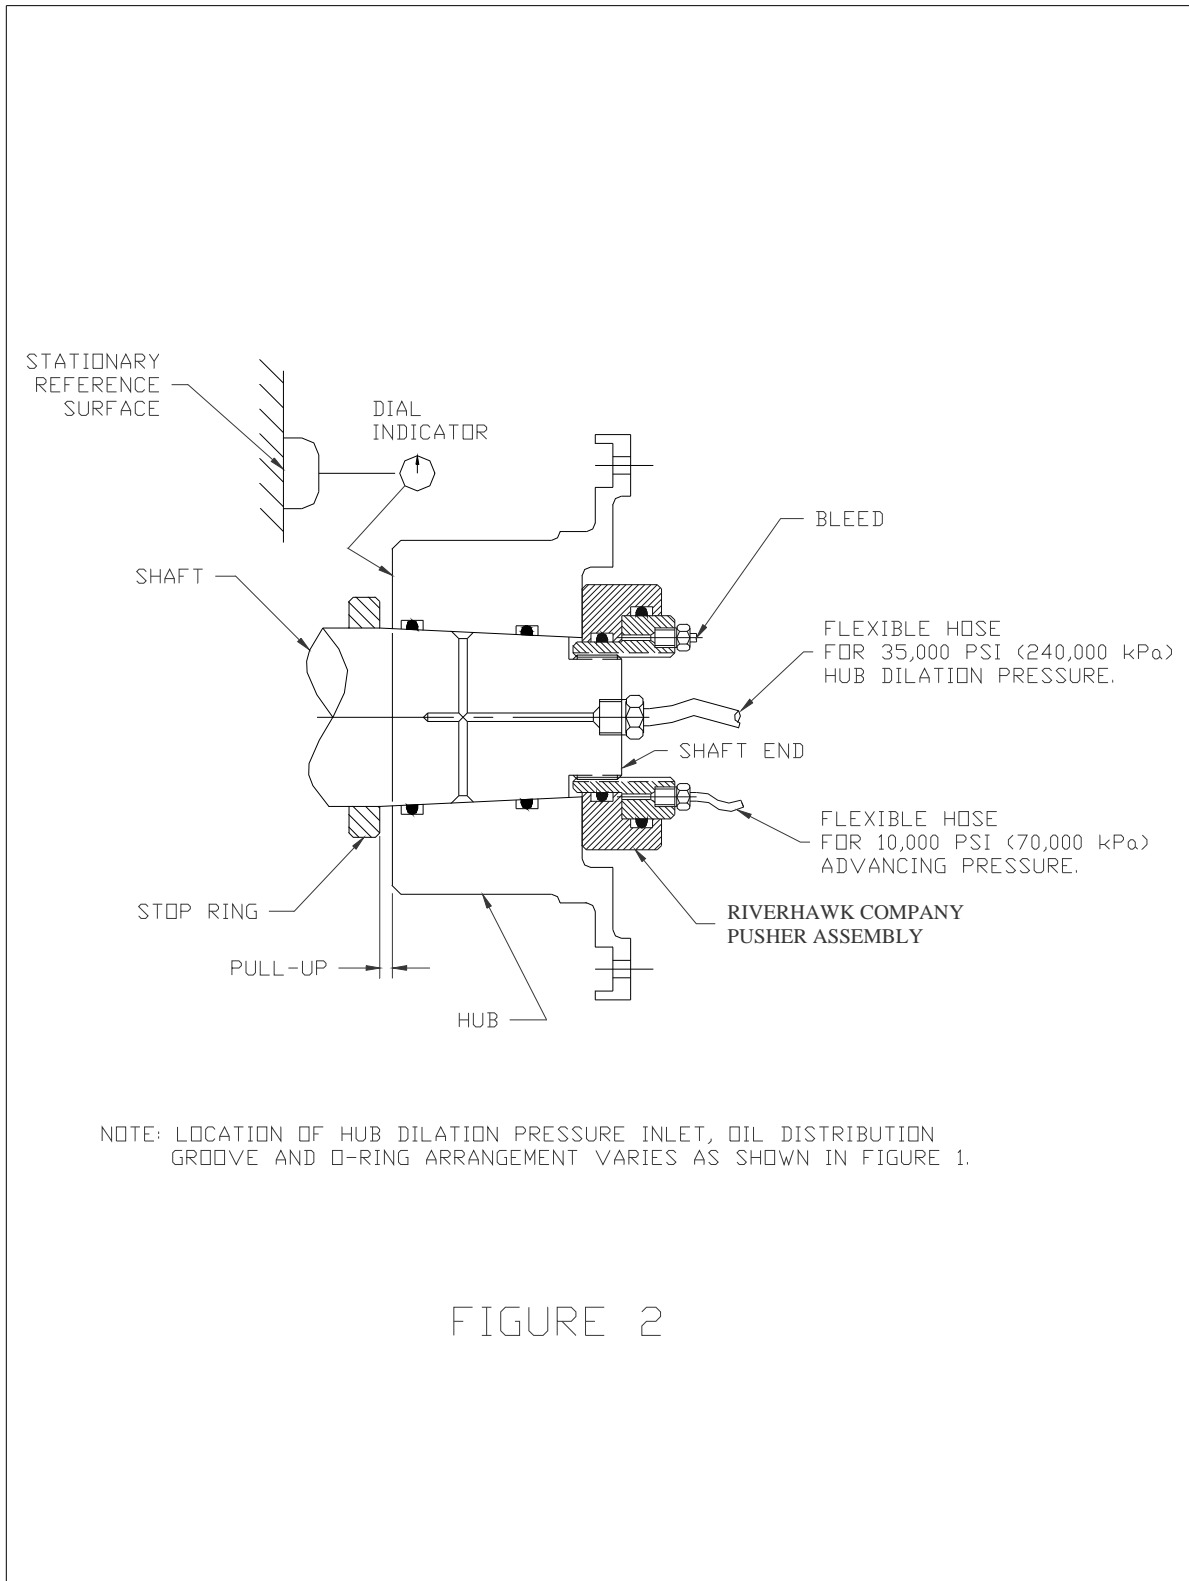

FIGURE 2
The pusher assembly shown in Figure 2 is designed and constructed to match the machine shaft end. Its stroke will accommodate the full pull-up of the coupling hub onto the shaft.
4.4.1 Once the starting position has been verified, thread the pusher assembly onto the shaft and seat it using a spanner wrench. Figure 2 shows the Riverhawk Company Pusher Assembly mounted on the shaft end with the hub in its starting position. As previously recommended, both the dial indicator and stop ring methods are depicted to determine pull-up.